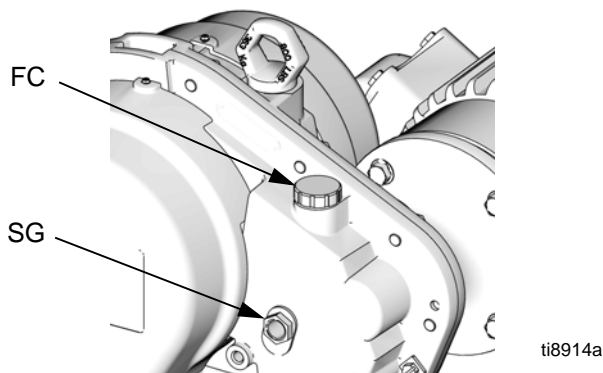

FIG. 5. Oil Fill
Open the fill cap (FC) and fill the gear reducer oil reservoir with 2 quarts (1.9 liters) of Graco 288414 Oil (twelve 1 quart bottles). Check the oil level in the sight glass (SG) on the gear reducer housing. Do not overfill. See FIG. 5.